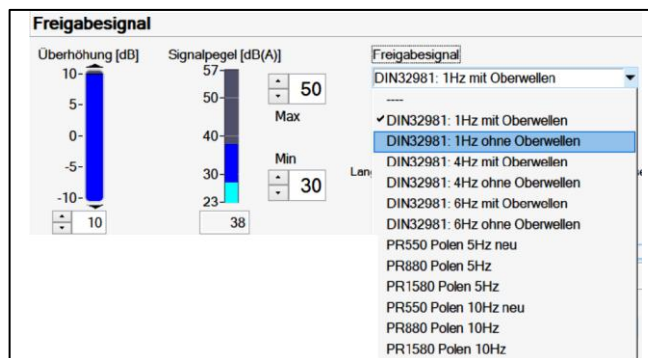

Fig. 30
- Selection of a standardised pedestrian crossing signal from the dropdown menu **(3)** and Fig. 30